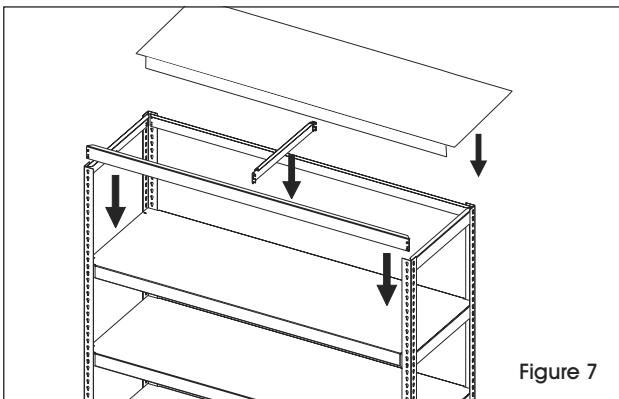

Figure 7
7. Attach remaining front/back support and shelf support. Lay the last steel shelf on the shelf supports. (See Figure 7)